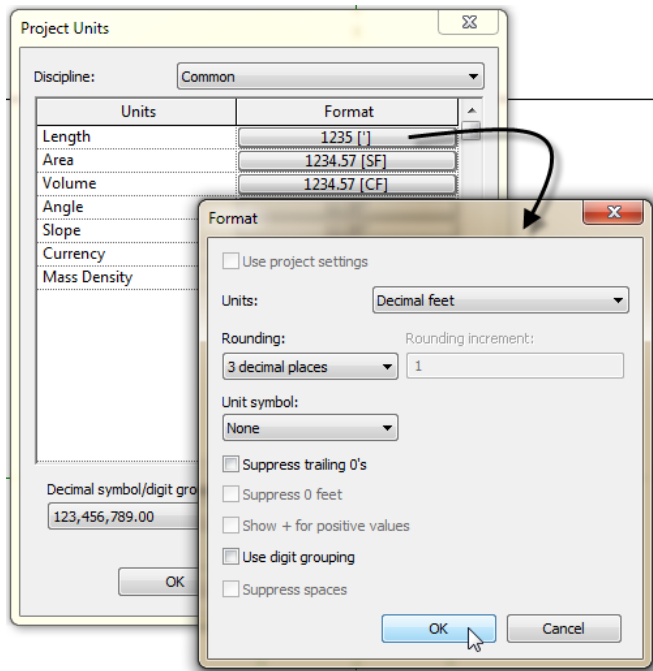

Figure 1—Set the units in your seed family
4. Click OK twice to finish (see Figure 1).